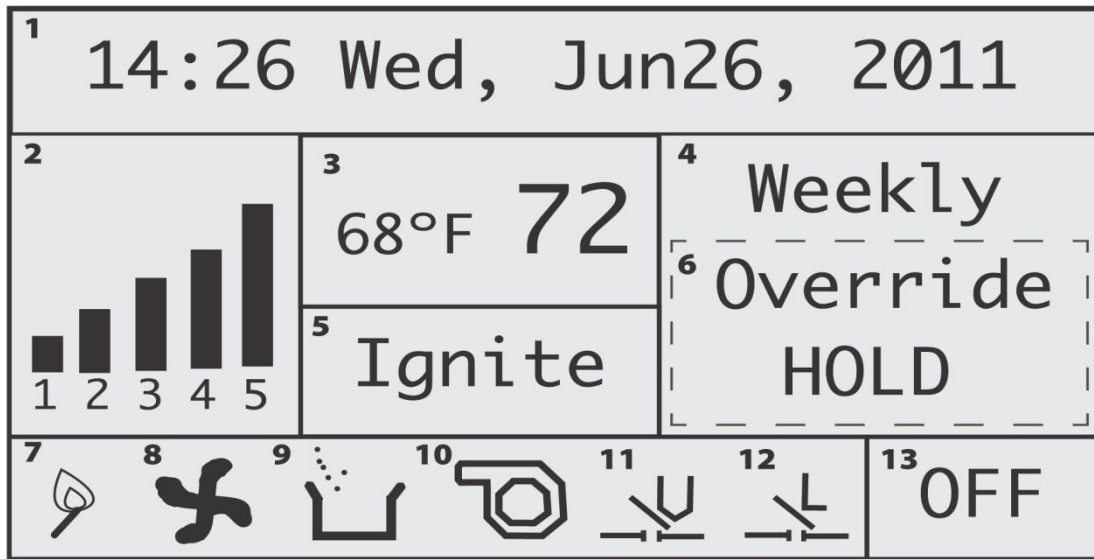

Figure 19
When the stove turns on, the ignition indicator and the combustion blower indicator will appear on the screen (images and 8 in Figure 19 on page 23). "Ignite" will also appear in the work stage box on the screen. After approximately four seconds, the vacuum switch indicator will appear. Also note that the hopper lid open indicator (limit indicator) will appear anytime the stove's hopper lid is properly shut and sealed.
9. With a schedule set, make sure that the main display screen on the controller reads "Weekly" (for operating in the Weekly Mode) and that the unit is turned on. The schedule will not take effect unless the unit is turned on in the Weekly Mode. (See button 13 on Figure 19.)